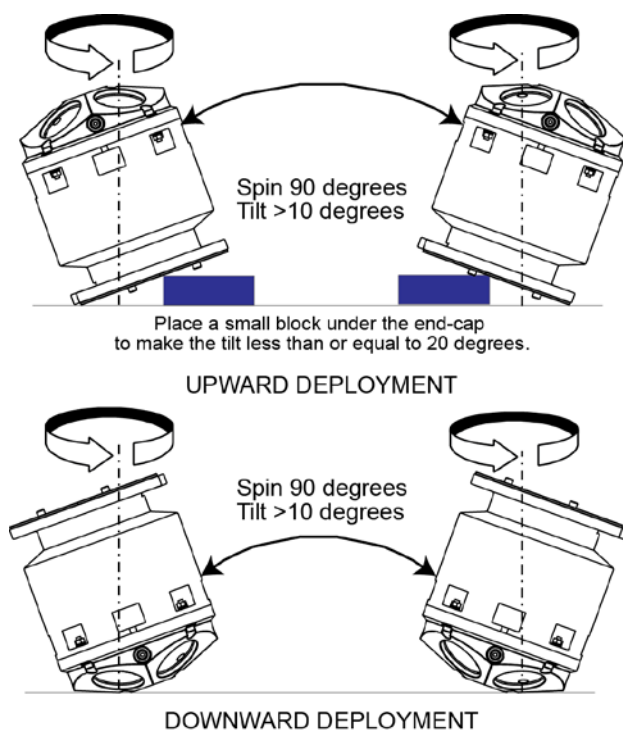

Figure 30. Compass Calibration
5. Tilt the DVL (see Figure 30). Tilt an upward-looking Navigator with a block under one side of the end-cap. A 35-mm thick block will give you an 11-degree tilt. Check the on-screen instructions to see if the orientation is OK. Adjust as necessary.
7. The second rotation requires the DVL to be tilted 15 degrees in another direction than from the first rotation (see Figure 30). Follow the on-screen instructions to orient the DVL correctly. When prompted, rotate the DVL slowly 360 degrees (approximately 5 degrees per second).